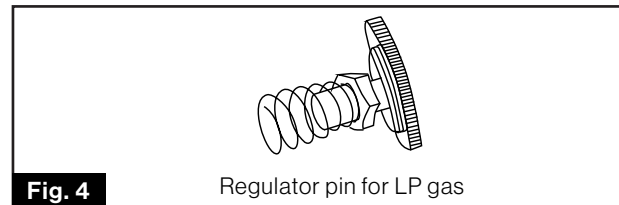

Fig. 4
- To convert gas supply from NG to LP gas, reverse the retainer pin and spring, and put back tightly into the regulator cap. (Fig. 4)